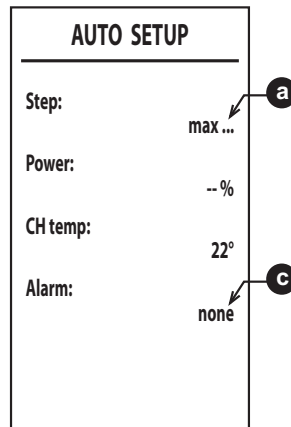

fig. 53
6. After ignition, the burner goes to heating at the various powers (max, med, min) indicated by point **a** (fig. 53).
8. If the ignition sequence described in point "6" is not successful, the message **max_err** at point **a** and an error code at point **c** will appear (fig. 53).